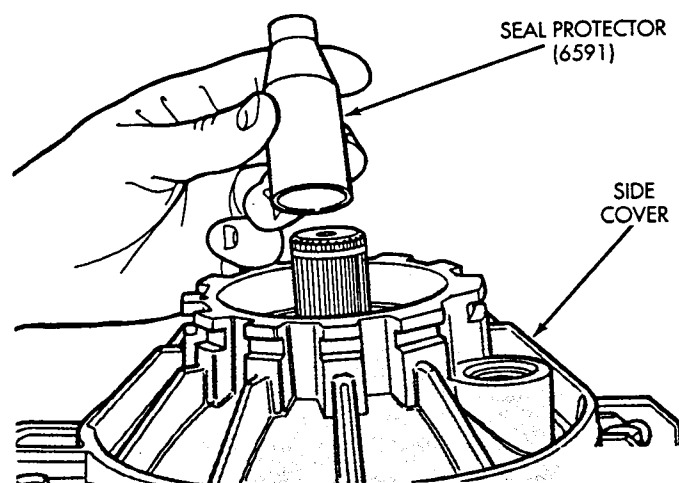

Fig. 42 Seal Protector
(47) Install seal protector (special tool 6591) on shaft (Fig. 42).